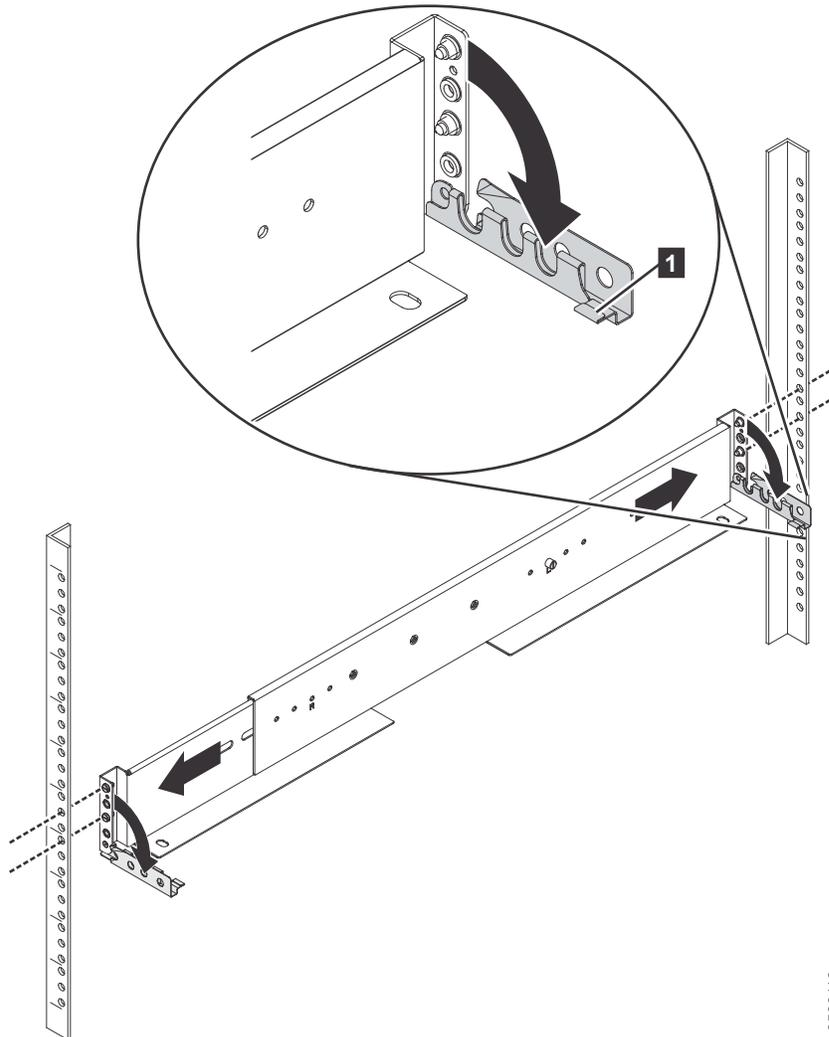

Figure 12. Opening the hinge brackets
6. At each end of the rail, grasp the tab **1** and pull *firmly* to open the hinge bracket (see Figure 12).